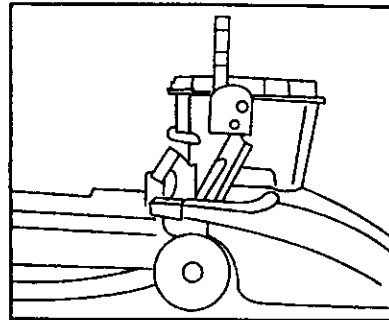

Fig. 8
2. Rotate tank handle 90° upward and lift out of position (Fig. 8).